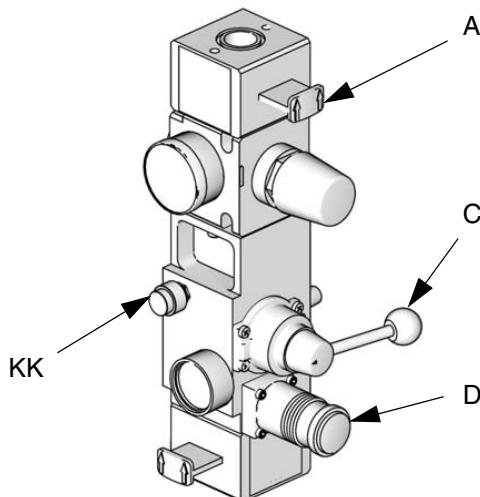

FIG. 13
1. Close the system air shutoff valve (A).
2. With the ram lever (C) in the neutral position, adjust the ram regulator (D) to 0 psi.
3. Place the ram lever (C) in the UP position, FIG. 13.
4. Push and hold the ram separation air button (KK).
5. Adjust the ram regulator (D) to approximately 10-15 psi (69-103 kPa, 0.7-1 bar) or until the ram plate begins to rise.
6. Continue to hold the drum separation air button (KK) just enough to keep the drum from rising with the ram plate.